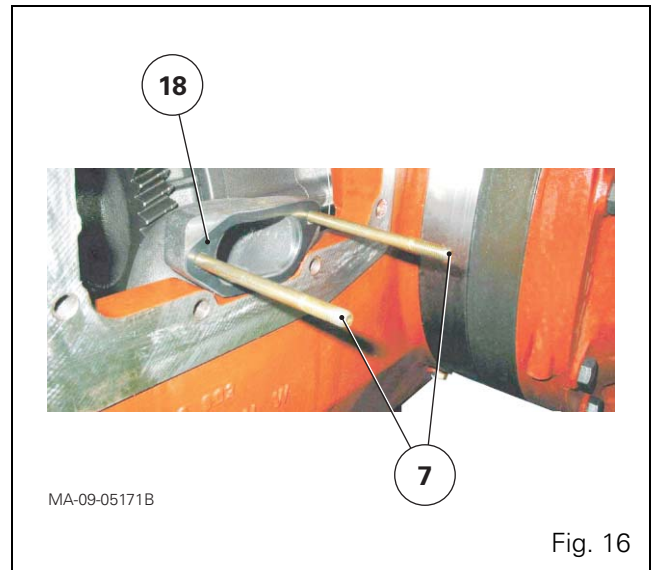

Fig. 16
- 11.** Fix the adhesive face of the flat seal (18) to the suction manifold (Fig. 16).
NOTE: Fig. 16 shows a flat seal (18) adhered to a suction manifold for a GPA40 rear axle.
- 14.** Slide the cover plate (14) onto the two studs mentioned above, aligning the studs (7) (Fig. 16) with the relevant ports on the cover plate. When the end of the studs (7) protrudes beyond the external face of the cover plate, gradually and partially screw on the nuts (28 (Fig. 15).